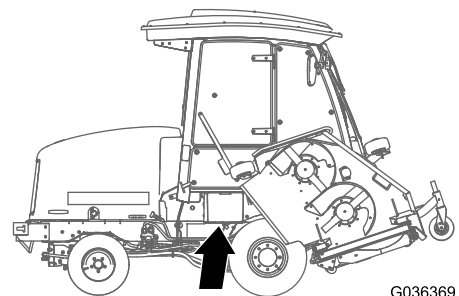

Figure 53
1. Open the battery cover on the side of the shroud (Figure 53).
**Note:** Press down on the flat surface above the battery cover to ease the removal of the cover (Figure 53).